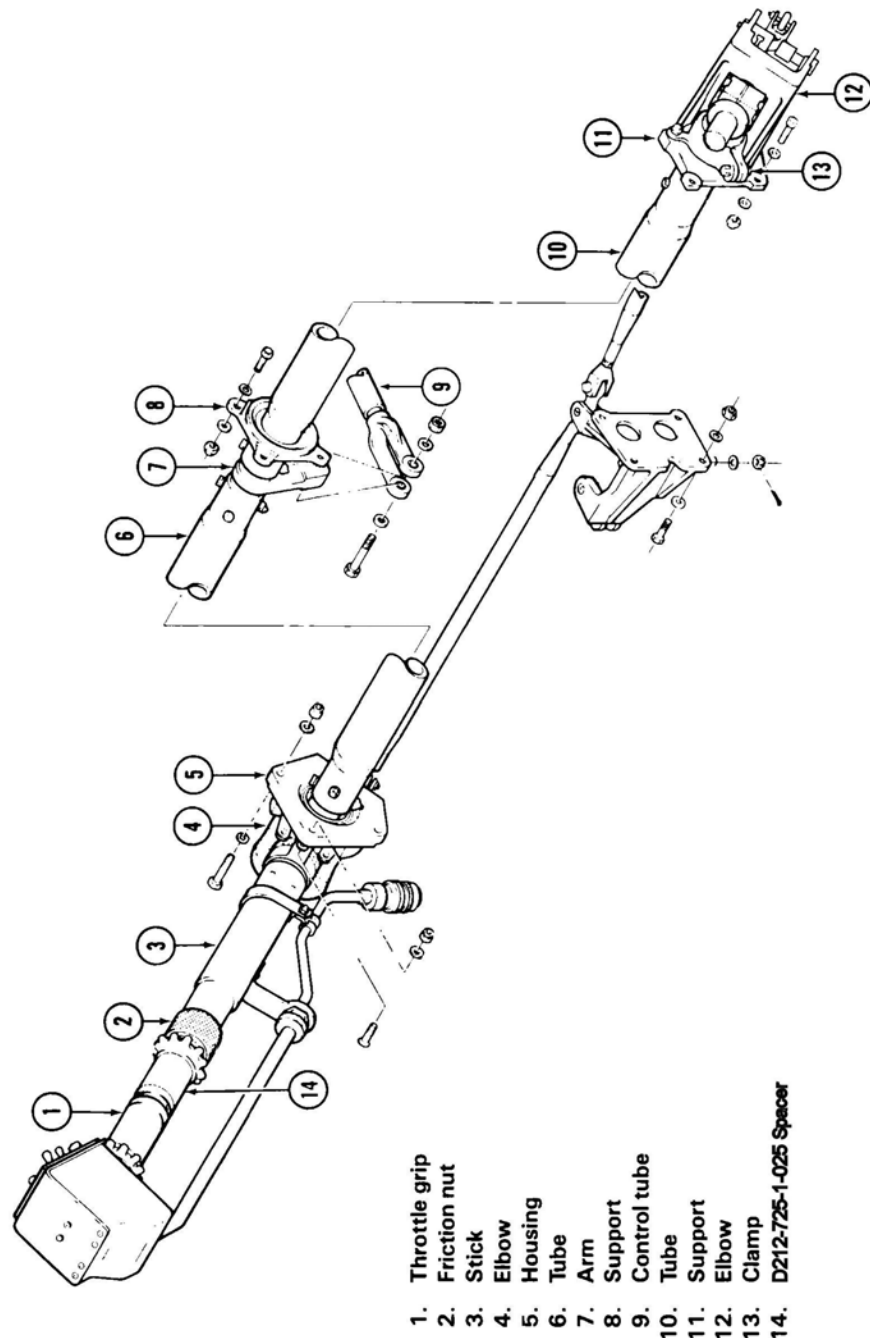

Figure 67-9. Collective Stick and Jackshaft
67.2.4.1 Loosen friction nut (2, Figure 67-9) completely.